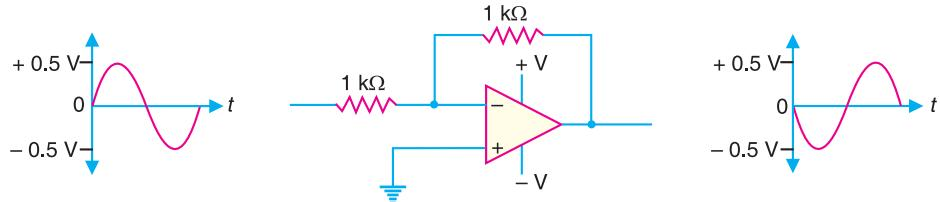

Fig. 25.51
**Example 25.27.** Find the output voltage for the circuit shown in Fig. 25.51.